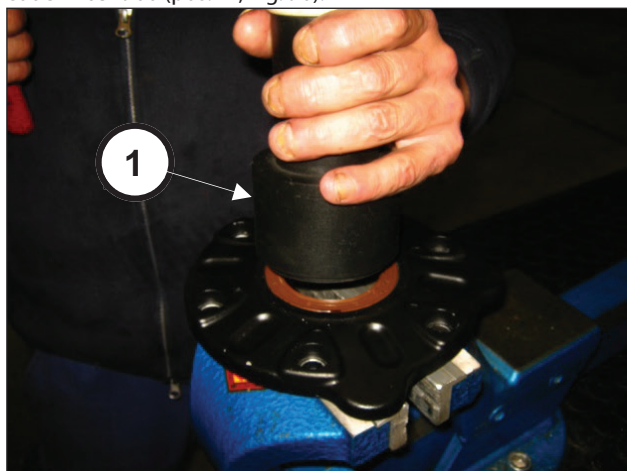

Fig. 90
Insert the oil seal inside the pinion cover using the special tool code 27634900 (pos. ①, Fig. 90).